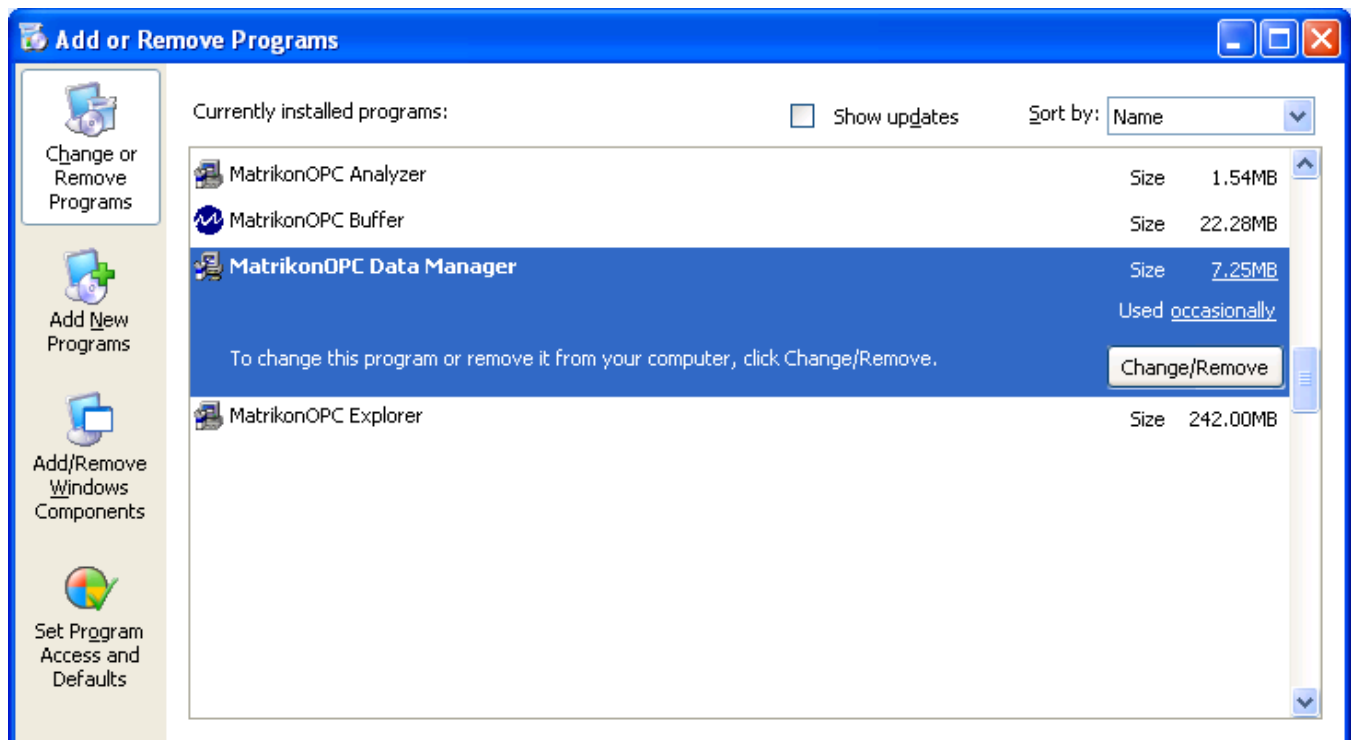

Figure 66 - Add/Remove Programs
3. The **Add or Remove Programs** window (Figure 66) is displayed.